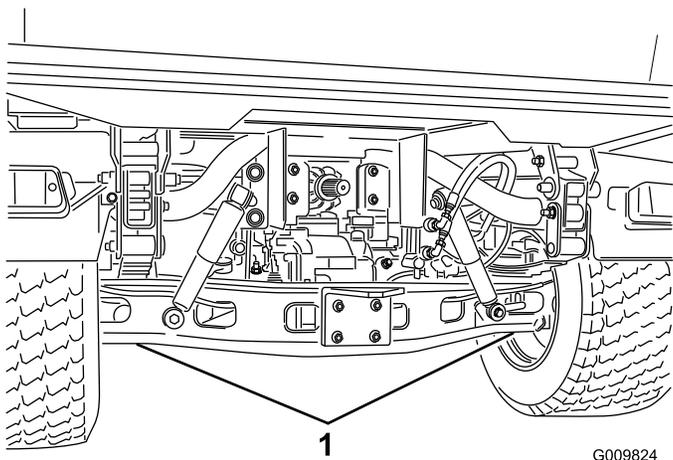

Figure 37
- The jacking point at the front of the machine is under the front center frame support (Figure 36) and at the rear it is under the axle (Figure 37).